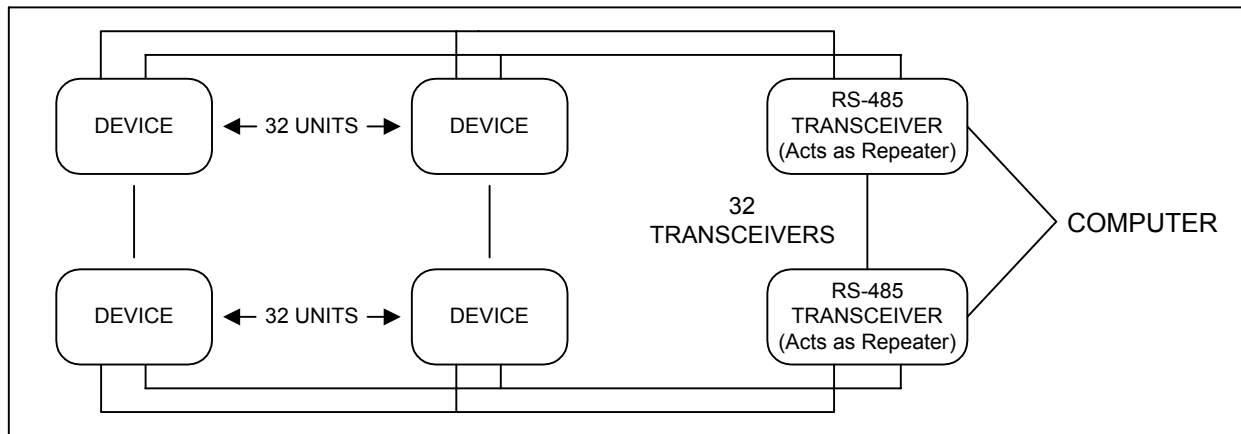

Figure 4.4: 2-Wire RS-485 Communication Installation Connection with Transponder
- In a two-wire connection, a maximum of 900 instruments can be included in the same network (See Figure 4.4).